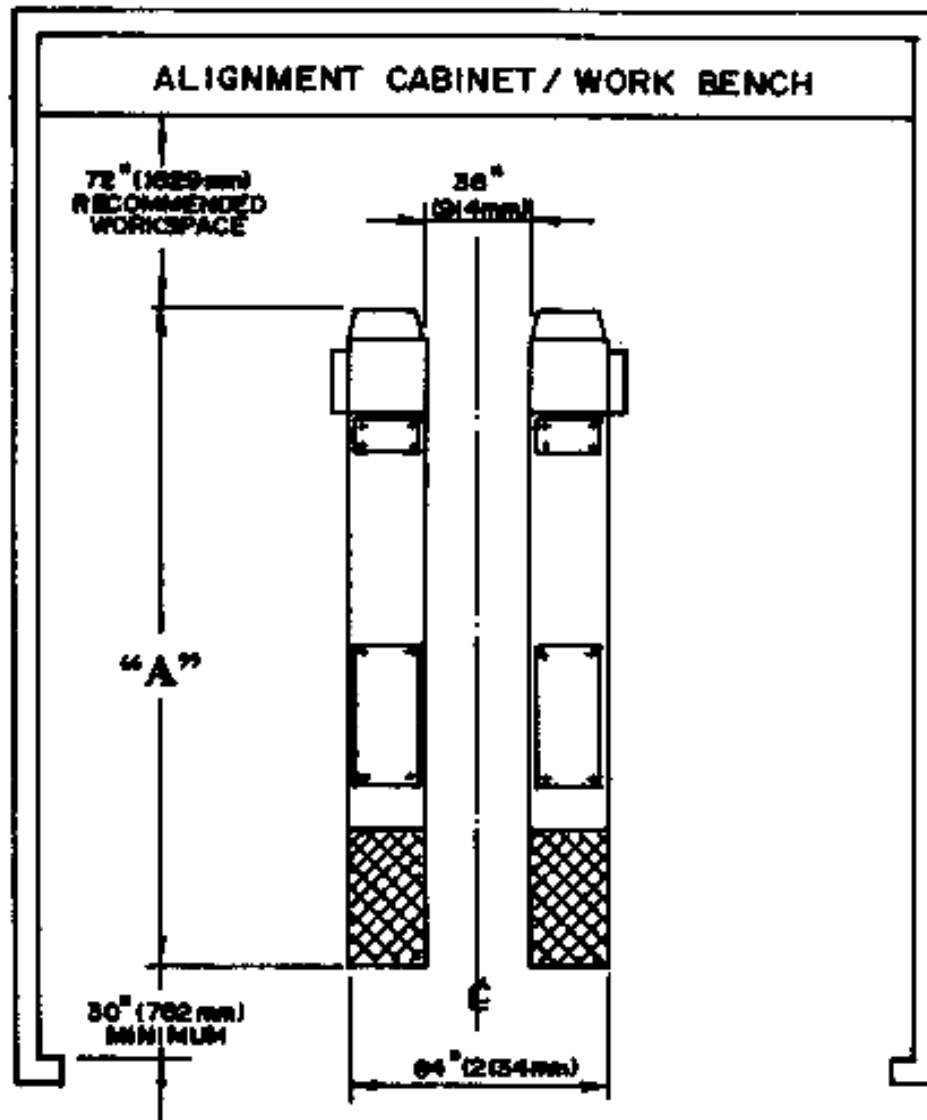

Figure 2. Typical bay layout
1. After selecting the location best suited for your lift, draw a line parallel to the front of the lift, approximately 72" (1829mm) back from the cabinet/work bench area. This will be the approximate location of the front of the lift. Refer to **Figure 2**.